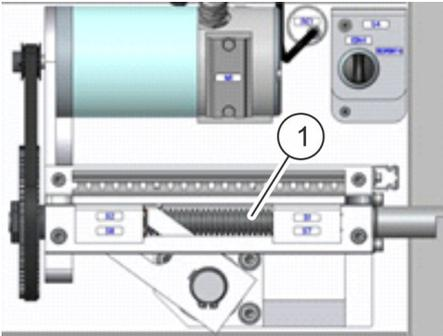

Fig. 17: Lubricate the gear spindle
2. ➤ Clean the gear spindle (Fig. 17/1) with a cloth.
3. ➤ Lubricate the gear spindle (Fig. 17/1) with a brush and lubricant 'Gleitmo 805'.